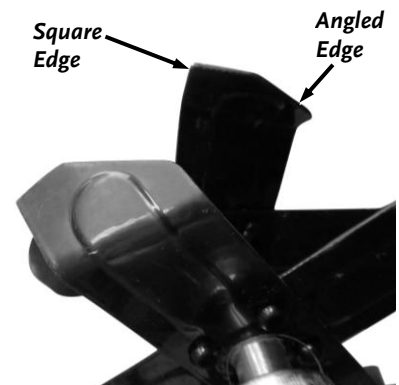

Figure 17
1. Install the left side Tine Assembly onto the Shaft with the squared edge facing forward the angled Tine edge facing back (**Figure 17**).